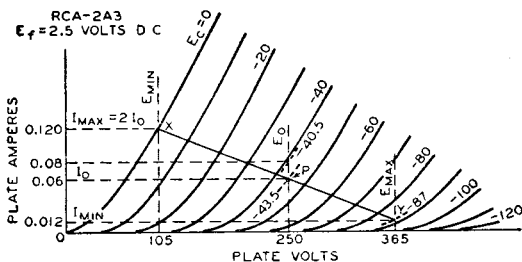

Fig. 20
Calculation of the **power output** of a triode used as a class A amplifier with either an output transformer or a choke having low dc resistance can be made without serious error from the plate family of curves by assuming a resistance load. The proper plate current, grid bias, optimum load resistance, and the per cent second-harmonic distortion can also be determined. The calculations are made graphically and are illustrated in Fig. 20 for given conditions. The procedure is as follows: (1) Locate the zero-signal bias point P by determining the zero-signal bias E_c from the formula:
Example: Determine the load resistance, power output, and distortion of a triode having an amplification factor of 4.2, a plate-dissipation rating of 15 watts, and plate characteristics curves as shown in Fig. 20. The tube is to be operated at 250 volts on the plate.